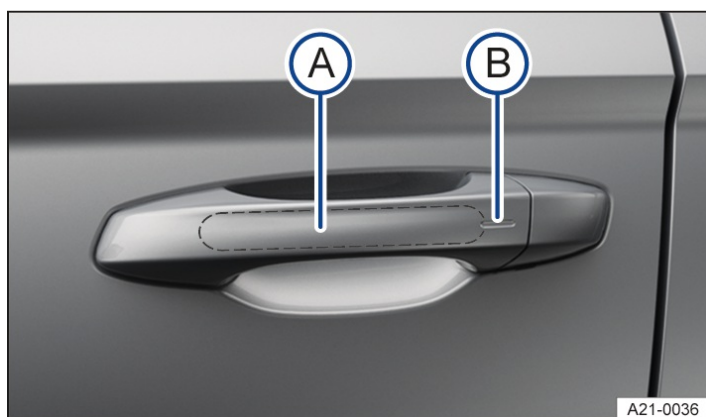

Fig. 2 In the door handle: sensors.
1. Touch the sensor on the inside of the driver or front passenger door handle → Fig. 2 (A).
3. Touch the sensor on the outside of the driver or front passenger door handle → Fig. 2 (B).
2. Then touch the sensor on the outside of the door handle once within 5 seconds → Fig. 2 . Do not put your hand around the door handle when doing this.
1. Place a finger on the sensor of the driver or front passenger door handle for a few seconds → Fig. 2 .